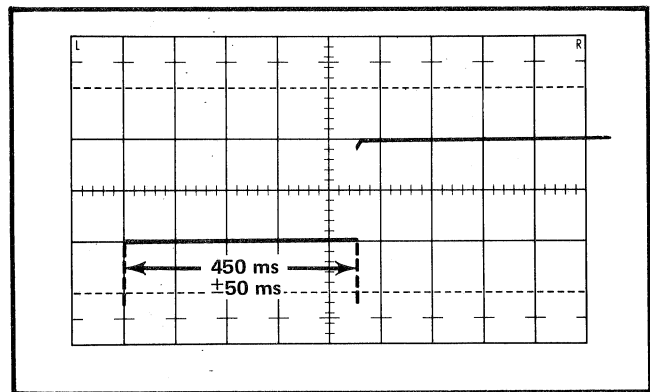

Fig. 5-13. Checking the negative-going excursion time of the erase signal at pin AQ on the Storage board.
e. While repeatedly pressing the ERASE button, position the waveform to the location shown in Fig. 5-13.
f. CHECK—The negative-going excursion time of the erase signal should be 450 ms \pm 50 ms (Fig. 5-13).